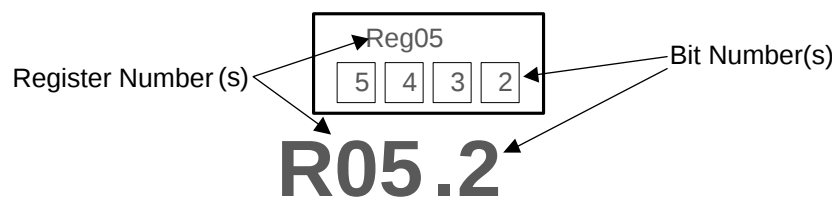

Figure 39. CDCM6208 Register Reference Format
Figure 39 shows the method this document employs to refer to an individual register bit or a grouping of register bits. If a drawing or text references an individual bit, the format is to specify the register number first and the bit number second. The CDCM6208 contains 21 registers that are 16 bits wide. The register addresses and the bit positions both begin with the number zero (0). A period separates the register address and bit address. The first bit in the register file is address 'R0.0' meaning that it is located in Register 0 and is bit position 0. The last bit in the register file is address R31.15 referring to the 16th bit of register address 31 (the 32nd register in the device)